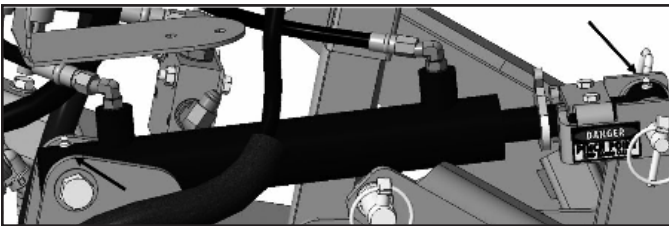

Figure 36: Hydraulic cylinder grease points
- Hydraulic cylinders 2 places each. See **Figure 36**